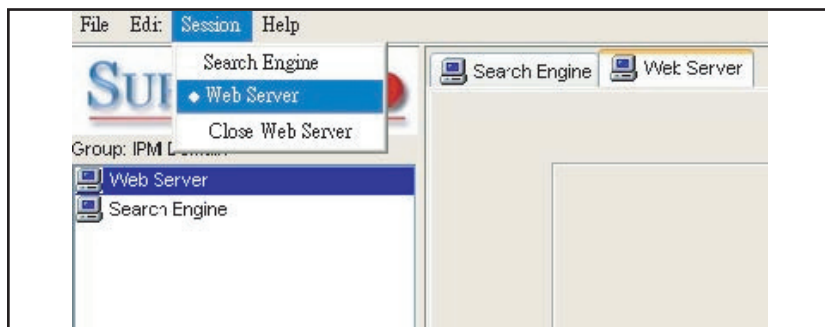

Figure 2-8
Step 6. As shown in Figure 2-8,
When more than one system is managed by IPMI View at the same time, you can select which opened management session you want to control by double clicking on system's name in the System Window or by selecting “Session><<System name>>” in the pull-down menu, where <<System name>> denotes the name of the target system you want to control (as shown in Figure 2-8).
To close the opened IPMI View management session, select the IPMI View management session you want to close as the current IPMI View management session and then click “Session>Close <<System name>>” in the pull-down menu, where <<System name>> denotes the name of the system you want to close (as shown in Figure 2-8).